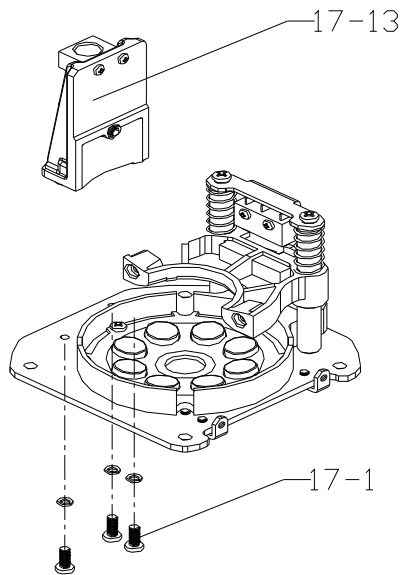

Figure 14
1. As per figure 14, remove 3 crosshead plate screws M3×8(17-1#) and remove bracket/level vial parts (17-13#).